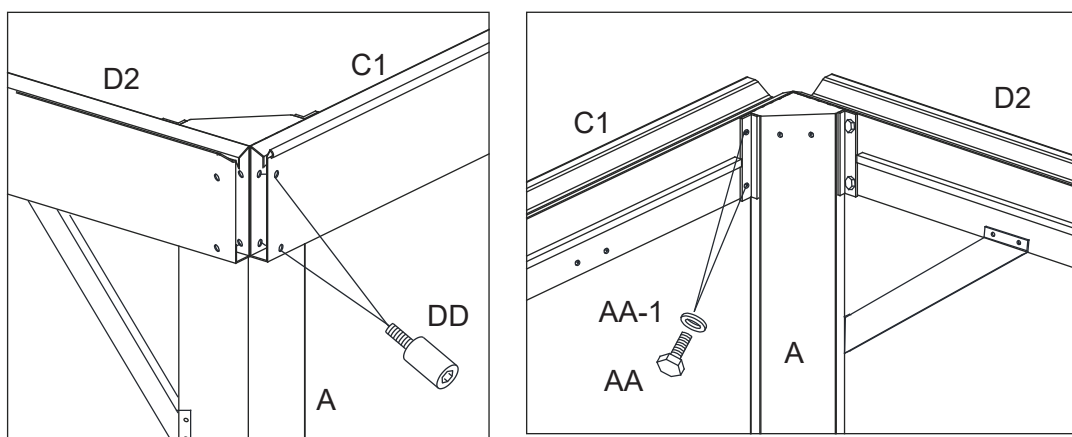

Figure 5-1
5.1. Attach Short Lintel (C1 and C2) to Corner Posts (A) first with Bolts (AA) and Steel washer (AA-1) then with Bolts (DD). Tighten Bolts. See Figure 5-1.